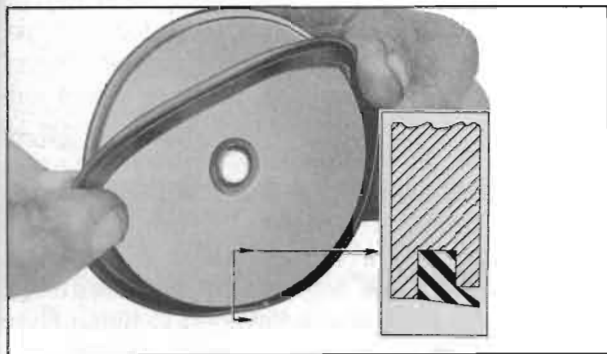

Figure 4-100—Installation of Servo Piston Seal
4. Worn or damaged piston seals should be replaced. When a new seal is installed on a piston make sure that the lip fits over the smaller diameter land. See figure 4-100.